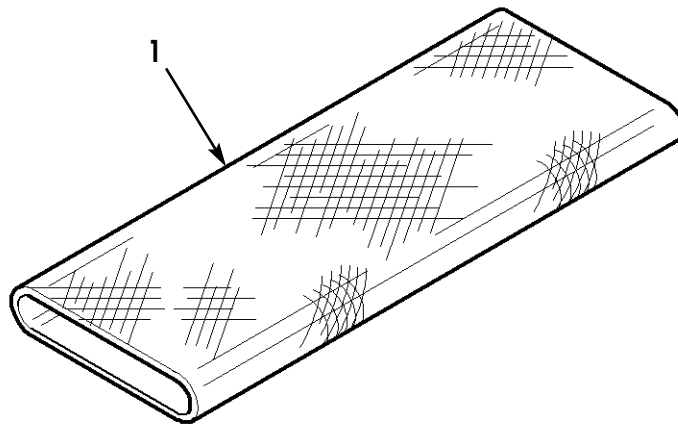

Figure 3. Protective Sleeve.
3. Wash each protective sleeve (Figure 3, Item 1) in soap and water solution. Rinse with water and allow to air dry.
3. Inspect each protective sleeve (Figure 3, Item 1) for cuts and rips. Replace any protective sleeve (Figure 3, Item 1) found to be cut or ripped.